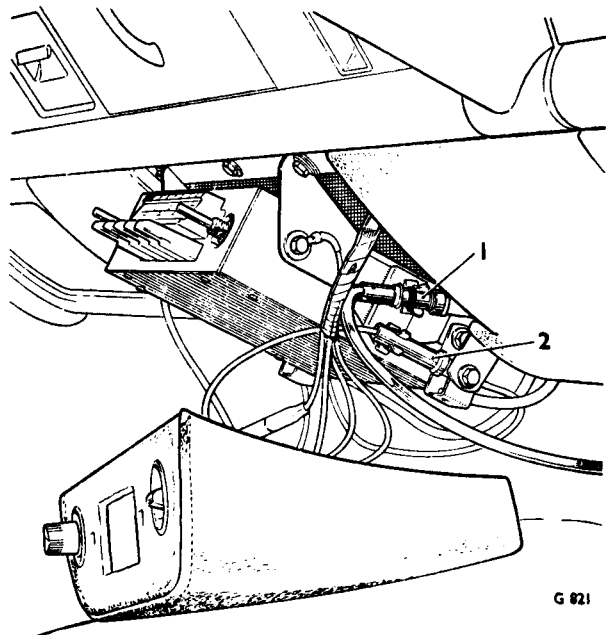

FIG. M89 RECEIVER WITH COVER REMOVED
4. Lower the rear of the receiver trim and simultaneously withdraw the front of the trim clear of the receiver control spindles (*see Fig. M89*).